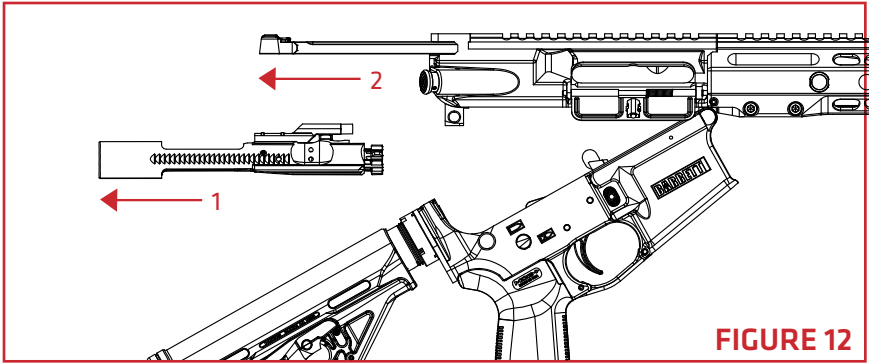

FIGURE 12
1. Pull back the charging handle and withdraw the bolt carrier assembly (**FIGURE 12**).